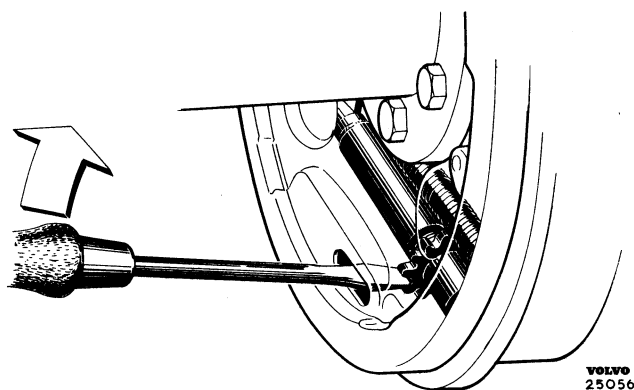

Fig.3 Adjusting the brake
2. Remove the rubber seals, insert a screwdriver in the aperture and apply the brake shoes as shown in fig. 3. Turn the adjusting screw toothed wheel until the brake drum is locked.